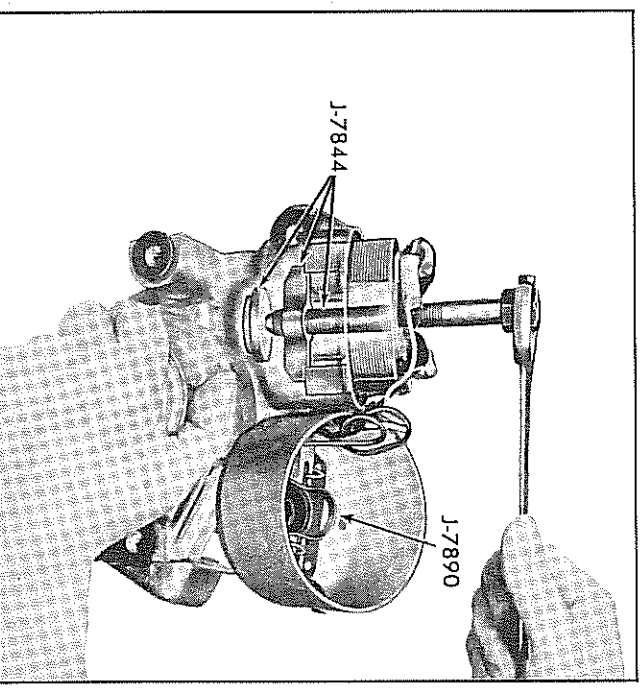

Fig. 18—Removing Field Coil With Tool J-7844
- c. Install field puller tool J-7844 as shown in Figure 18 and remove field.